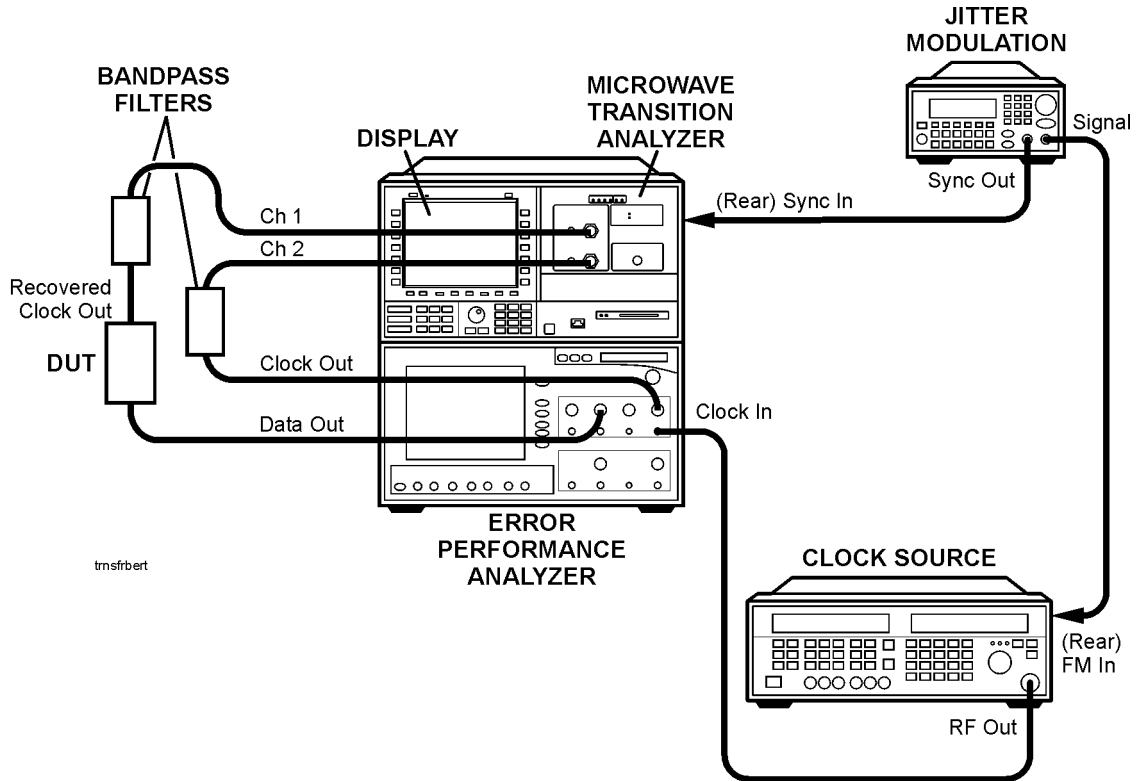

Figure 3-1. Jitter Transfer and Generation Connections with Stand-Alone¹ Error Performance Analyzer and Stand-Alone² Clock Source
- For stand-alone error performance analyzers (70843A/B/C and 86130A), refer to Figure 3-1 on page 3-6.